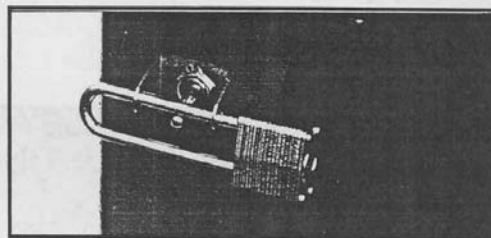

Fig. 10
6. We suggest that when the machine is not in use, the switch be locked in the "off" position using a padlock as shown in Fig. 10.